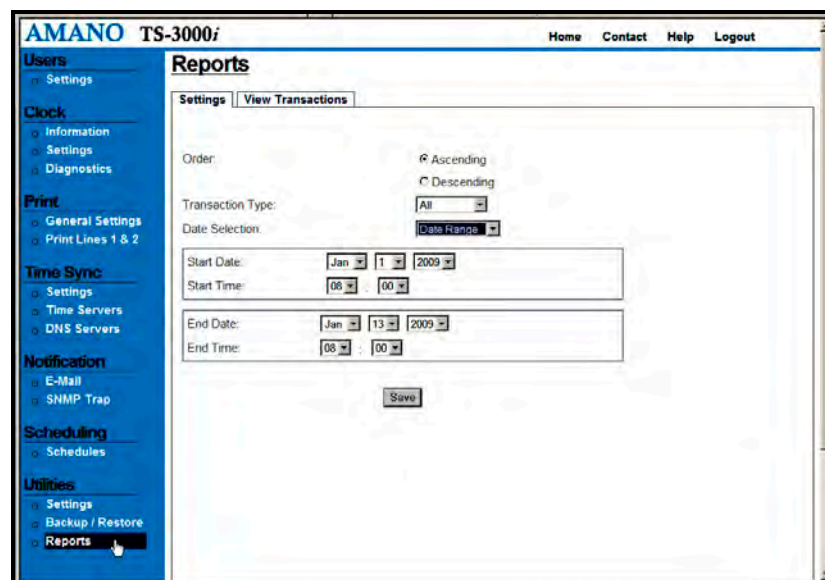

Figure 4-27. Reports Settings.
Step 1. Click on the **Reports** link under **Utilities**, and the **Reports** screen will appear to show the **Settings** tab (see *Figure 4-27*).